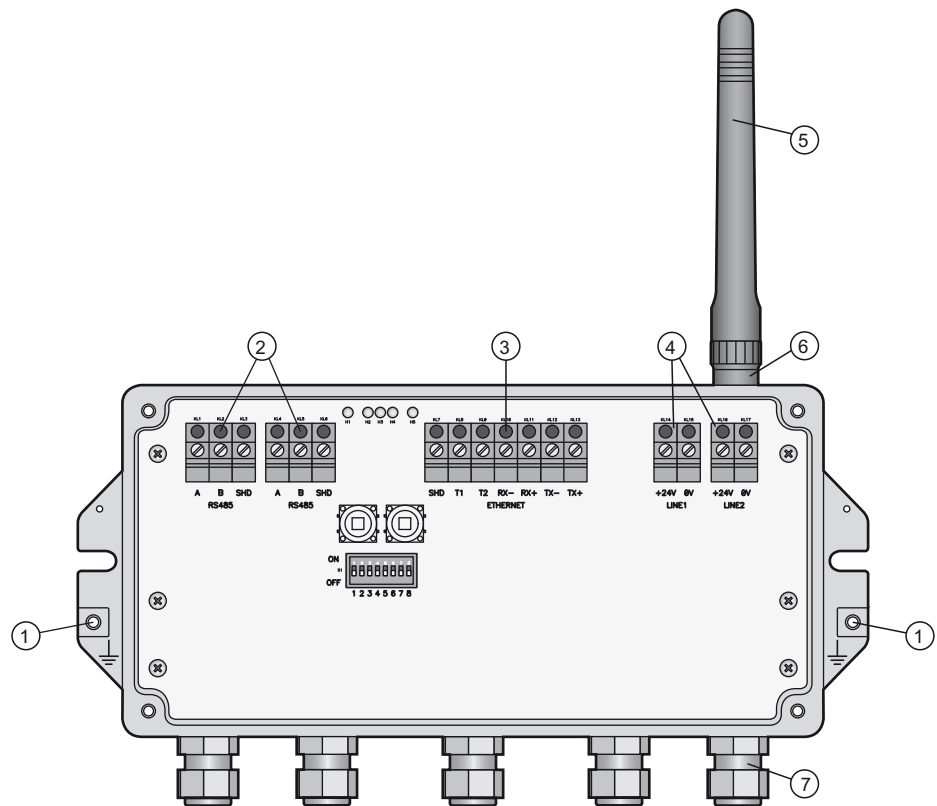

Fig. 5-1: Connections and interfaces
- Firmly screw the antenna to the device's antenna terminal (see Item 6 in Fig. 5.1 in Chapter 5.1).
- 4 Connect the 24 VDC power cable to the first power supply connection "Line 1" observing polarity (see Fig. 5-1 above).